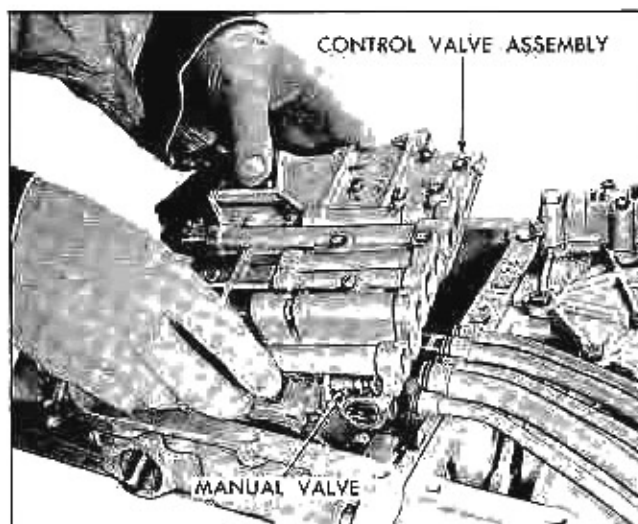

Fig. 41 Removing Control Valve Body
10. Remove five (5) control valve assembly attaching bolts and carefully remove control valve assembly from the pipe assembly and rear bearing retainer being careful not to drop the manual valve (Fig. 41).